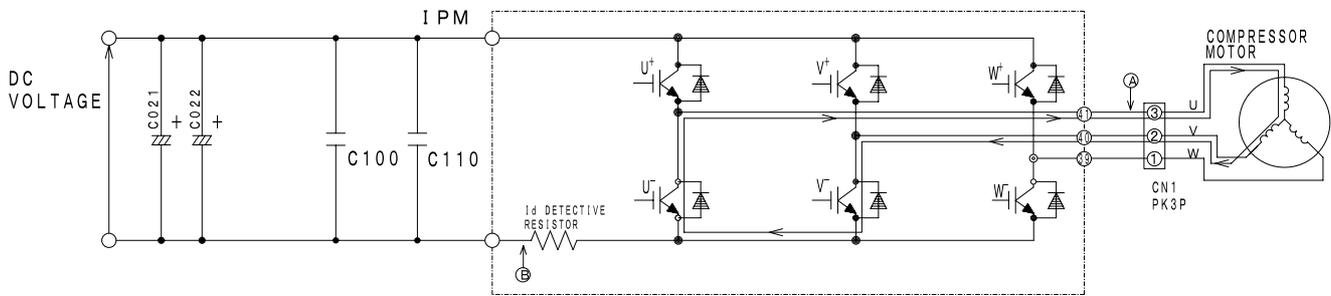

Fig. 4-4 Power module circuit (U^+ is OFF, V^- is ON)
At point ⑥: U⁺ is chopped (OFF), V⁻ is ON (circuit in Fig.4-4)
- (2) When U⁺ transistor is OFF: (by inductance of motor coil) U coil → V coil → V⁻ transistor → Return diode → Point ⑥ (Fig. 4-4)